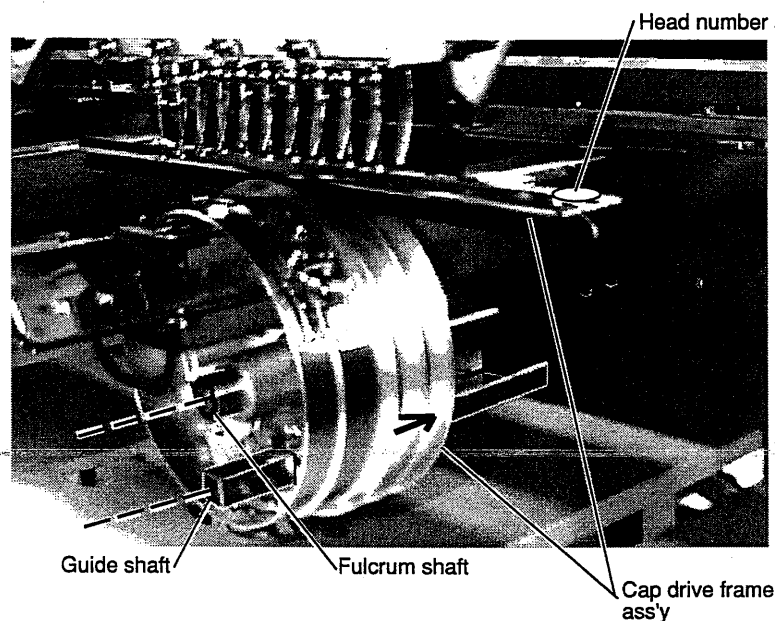

Fig. 2
6. As shown in Fig. 2, insert cap drive frame assembly with head number sticker labeled for respective head in fulcrum shaft and guile shaft. This work requires firstly to insert drive frame assembly for even numbered heads and secondly insert cap drive frame assembly for odd numbered heads.